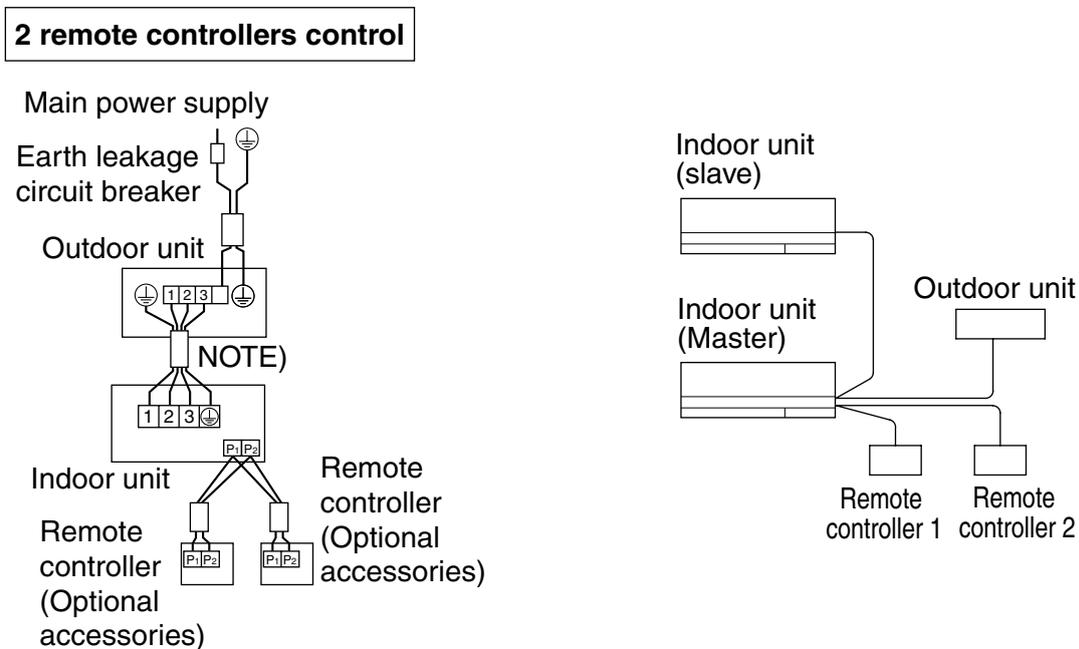

Fig. 28
- **2 remote controllers control:** 2 remote controllers control 1 indoor unit. (Refer to Fig. 28)
(3) Remove the control box lid (Refer to “5. INDOOR UNIT INSTALLATION”).
(4) **Add wiring between the remote controller 2 (slave) and the terminal (P1, P2) of the terminal block (X1M) for the remote controller in the control box. (There is no polarity.) (Refer to Fig. 28 and Table 4)**